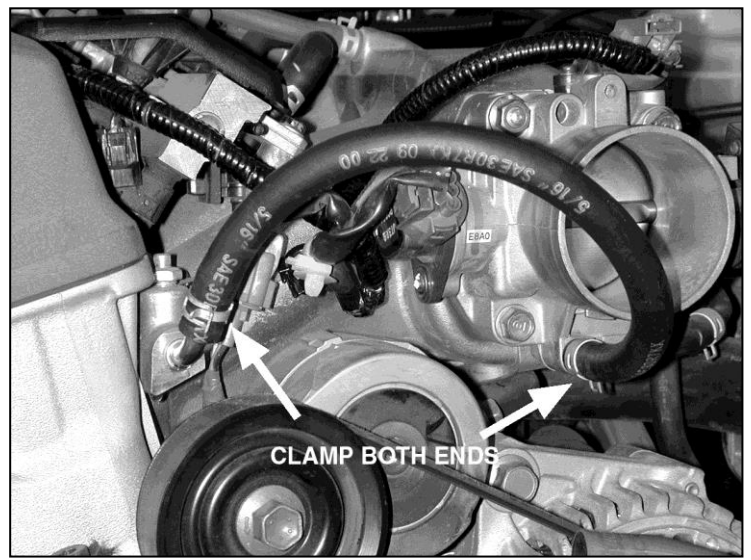

Fig.4
- b. Install the provided 5/16" hose between the throttle body and the bleeder outlet vacated by the removal of lower hose of the metal tube loom. Secure the 5/16" hose with the factory hose clamps, as shown. **(Fig. 4)**